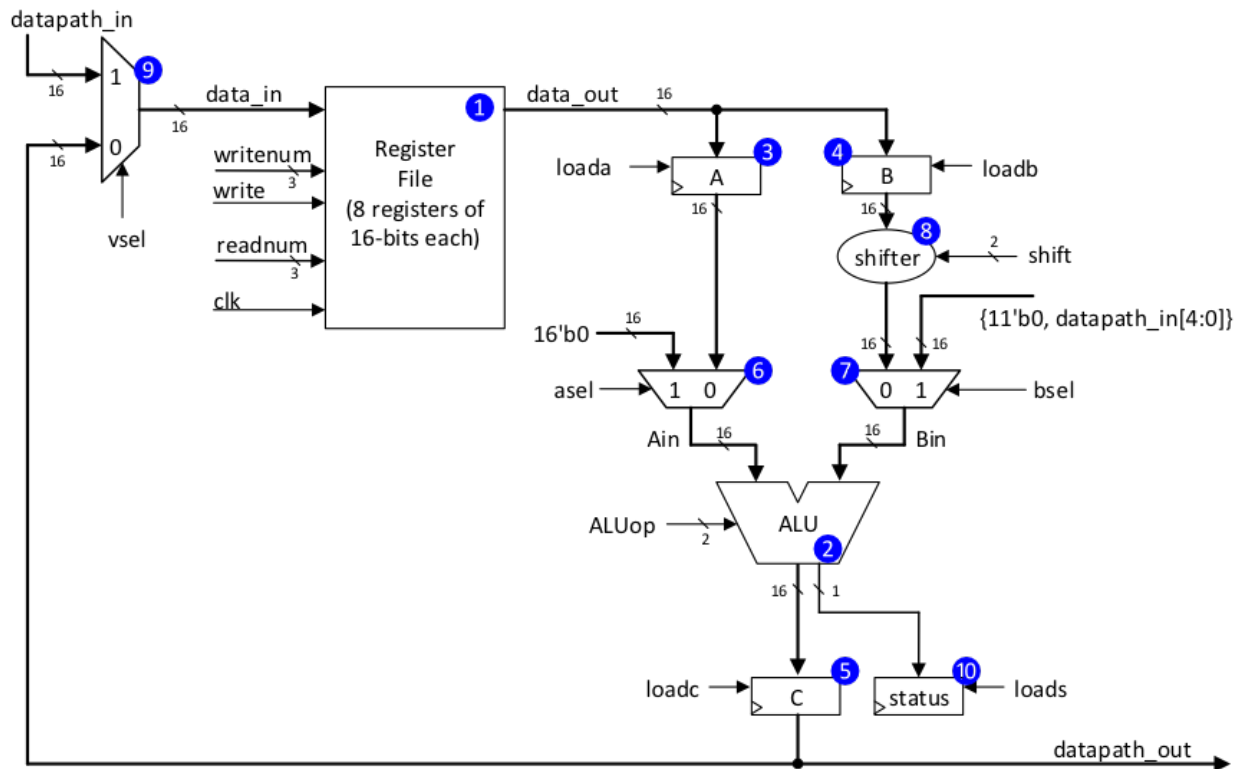
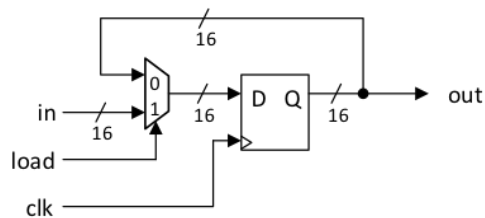
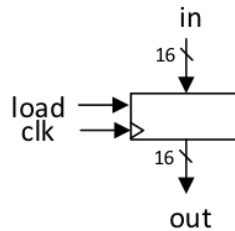

Figure 1: "Simple RISC Machine" Datapath
Figure 2: Register with Load Enable Circuit
Figure 3: Register with Load Enable Symbol (Note: this symbol is used in both Figure 1 and 4)
To execute the instructions above along with some others described later, in Lab 5, you implement the computer *datapath* shown in Figure 1. This section explains the different elements in Figure 1. While reading this section try to focus on understanding what each individual block does. In Section 2 we will see an example showing how the blocks work together.
To compute with the variables *g*, *h*, *i*, *j*, *t1*, and *t2*, our computer needs a way to “remember” their values. To remember their values, the Simple RISC Machine employs the hardware structure known as a *register file* ①, shown in Figure 1.
The register file for the Simple RISC Machine is a memory that has eight locations numbered 0 through 7, each of which can hold a 16-bit number. Notice that to specify one of the eight locations requires only $\log_2(8) = 3$ -bits, even though each location can hold 16-bits. The eight different locations are more commonly referred to as *R0*, *R1*, ..., *R7*, where the *R* stands for “register”. Thus, the entire register file can store $8 \times 16 = 128$ bits of information. An *individual* 16-bit register inside the register file is built using what is sometimes referred to as a *register with load enable*. A register with load enable can be implemented with the circuit shown in Figure 2, which you should know how to build based upon the material you will have seen in lecture by the time we reach the end of Slide Set 5 in lecture on Tuesday Oct 3.
In Figure 2, when *load* is 0, *out* is passed through the top input of the multiplexer into the *D* input of the set of 16 flip-flops, which together form a 16-bit register. Thus, when *load* is 0 and there is a rising edge of the clock, the value in the 16-bit register does *not* change. Conversely, when *load* is 1 the value of *out* is updated to the value on *in* on the rising edge of the clock. In Figure 1 a 16-bit register with load enable is represented using the symbol shown in Figure 3.
10. Now that all three main datapath modules are trusted to work, instantiate them in your datapath and add the remaining building blocks. Instantiate each of the three units (Register file ①, ALU ② and Shifter ⑧) inside `datapath.v`. Then, add in the remaining logic blocks ③④⑤⑥⑦⑨⑩ to your datapath module using synthesizable Verilog that conforms to the style guidelines. Use no fewer than one always block or assign statement per hardware block in Figure 1. Register A, B, and C will each require an instantiated flip-flop module and an assign statement for the enable input in order to conform to the style guidelines.